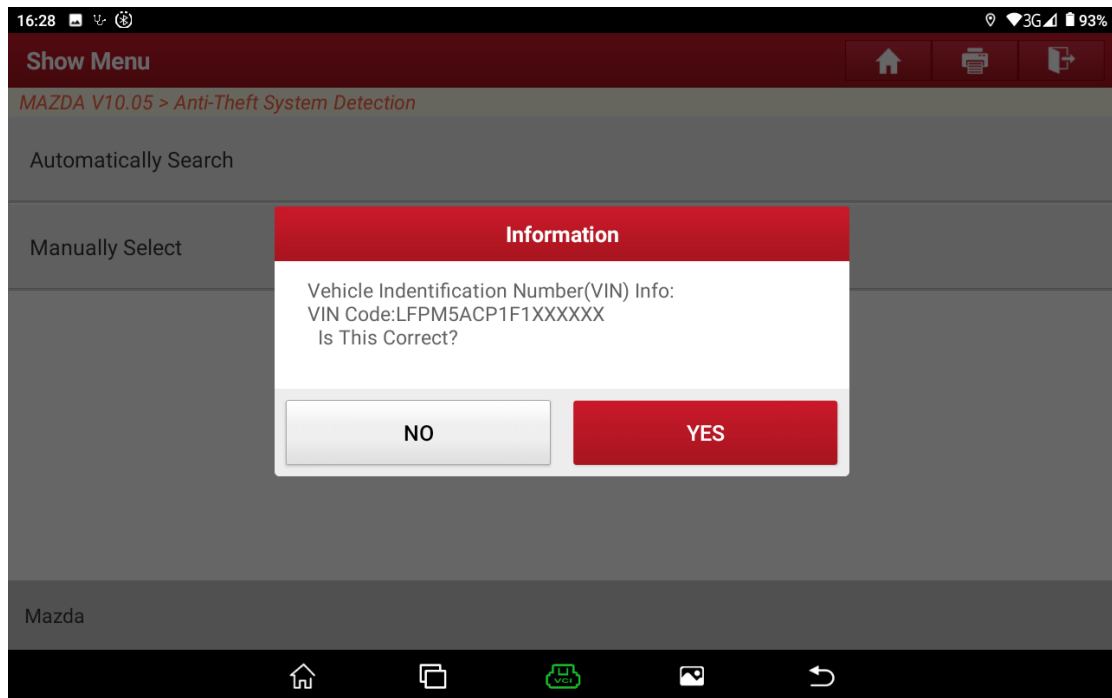

Figure B5
3. Confirm whether the VIN is correct. Choose [No] to manually input the correct VIN or choose [Yes] to access the next step. See Figure B5.